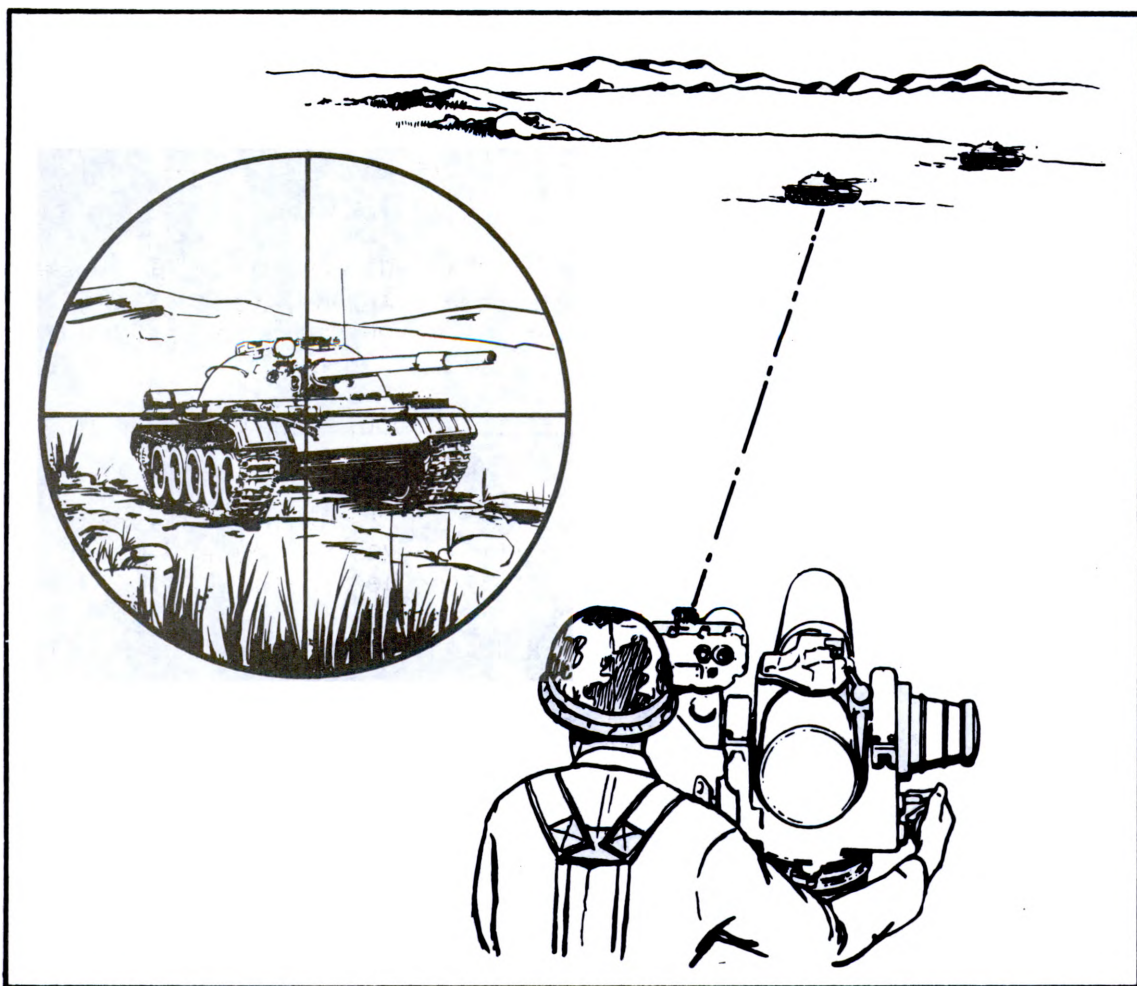

Figure 2
a. Acquisition. Once a target is sighted, acquire it in the optical sight, raise the trigger protective cover, and establish a smooth tracking rate while keeping the crosshairs on center of visible mass of the target (fig. 2).